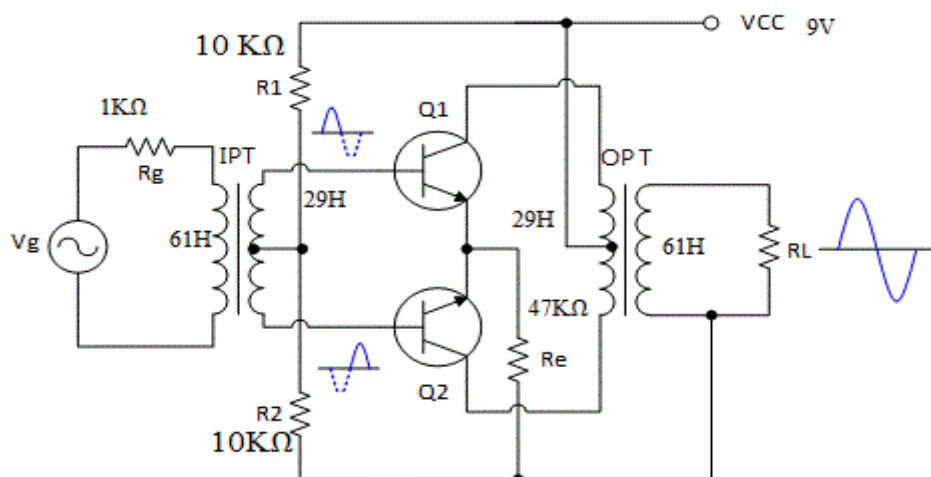

Fig. 6.1 Circuit diagram of push pull Amplifier
- I. Connect the DC supply (9 V) to the circuit (fig 6.1) from the source.